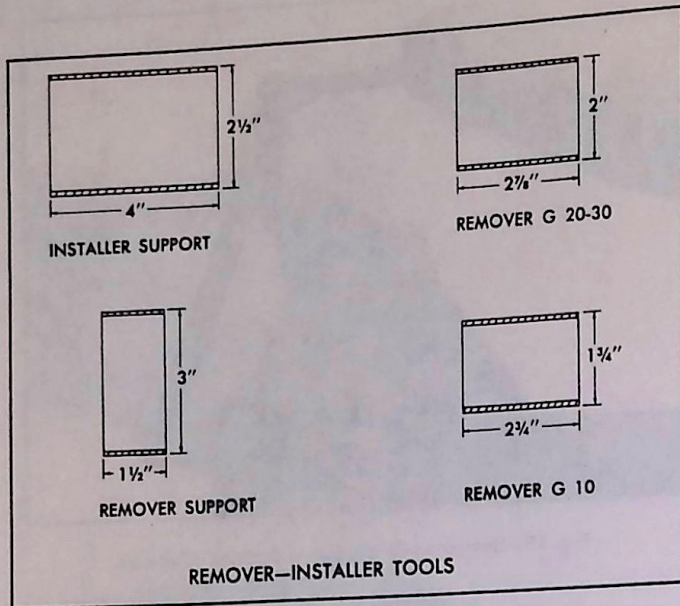

Fig. 15—Ball Joint Tools
1. Using heavy wall steel tubing or pipe, make remover/installer tools to the dimensions shown in Figure 15.